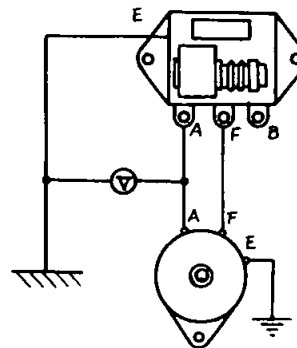

Fig. 8 Wiring hook-up measuring push-up voltage
The voltage is measured by connecting a voltmeter between the A and E terminals as shown in Fig. 8.
- (1) With the connections made as shown in Fig. 8 have the generator at no-load (B terminal disconnected) and rotating at specified speed (2,500 rpm.)
- (2) Set the pile pressure screw position.
- (3) Tighten the adjusting core (F screw) and determine the push-up voltage. If the F screw is tightened beyond the push-up voltage (10.5 volts/2,500 rpm.), the voltage rises extremely fast so that care should be taken to tighten as slowly as possible when near the push-up voltage.
The voltage at which the cut-out relay points close is checked. This voltage is determined by slowly increasing the speed of the generator and reading the voltmeter connected as shown in Fig 8 until the points close. The proper cut-in voltage is from 12.7-13.3 volts at 1,250 rpm. If the voltage checked is found to be too high when the points close, the relay adjusting arm shown in Fig. 8 is lowered to weaken the flat spring, and if too low, the adjusting arm is raised to strengthen the spring. However, it should be noted that the proper gap distance of the relay parts are